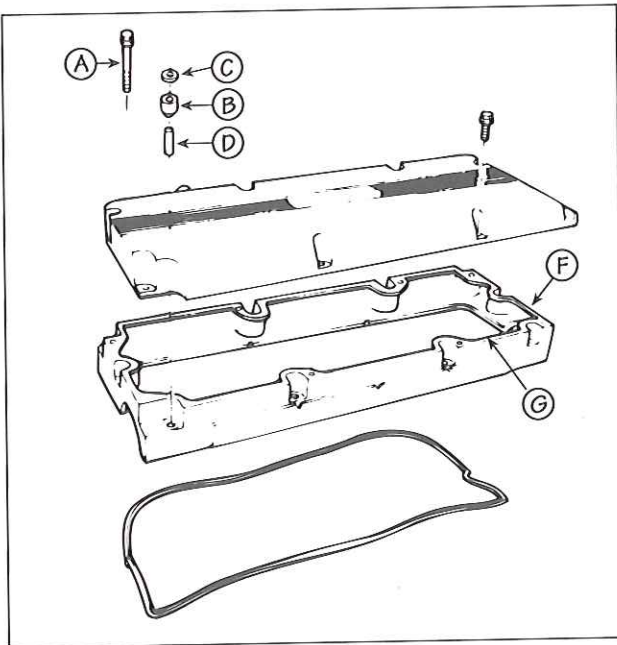

FIG. 38
### Two-piece Rocker Cover (Fig. 38)
5. Be sure the groove in the top of the rocker cover base (F, Fig. 38) and its mating, diamond-shaped seal (G, Fig. 38) are clean and dry. Install the diamond-shaped seal to the groove by pressing the seal into the groove. Use care not to stretch or twist the seal. The seal has a definite shape and should be installed exactly as removed from the base. If the seal cannot be installed to its groove without bunching or looping, the seal is stretched and must be replaced.